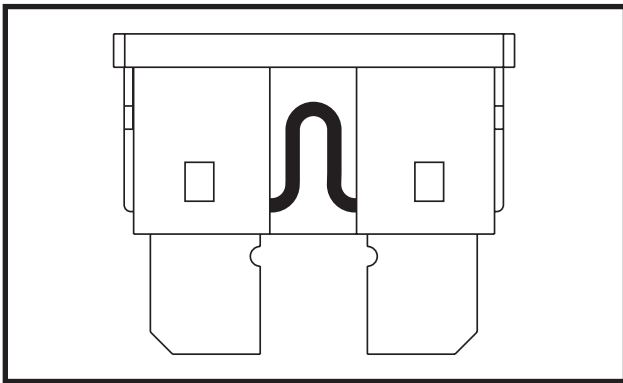

Figure 27. Working Fuse
2. Examine the fuse to be sure it is blown. **See figures 27 and 28.**